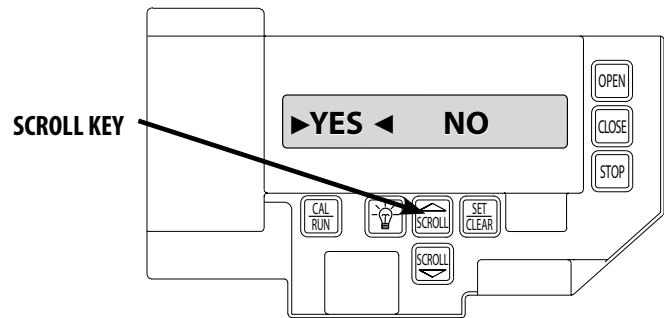

Fig. 4
- 4) Press SCROLL key (up or down) to toggle between YES and NO. Figure 4.